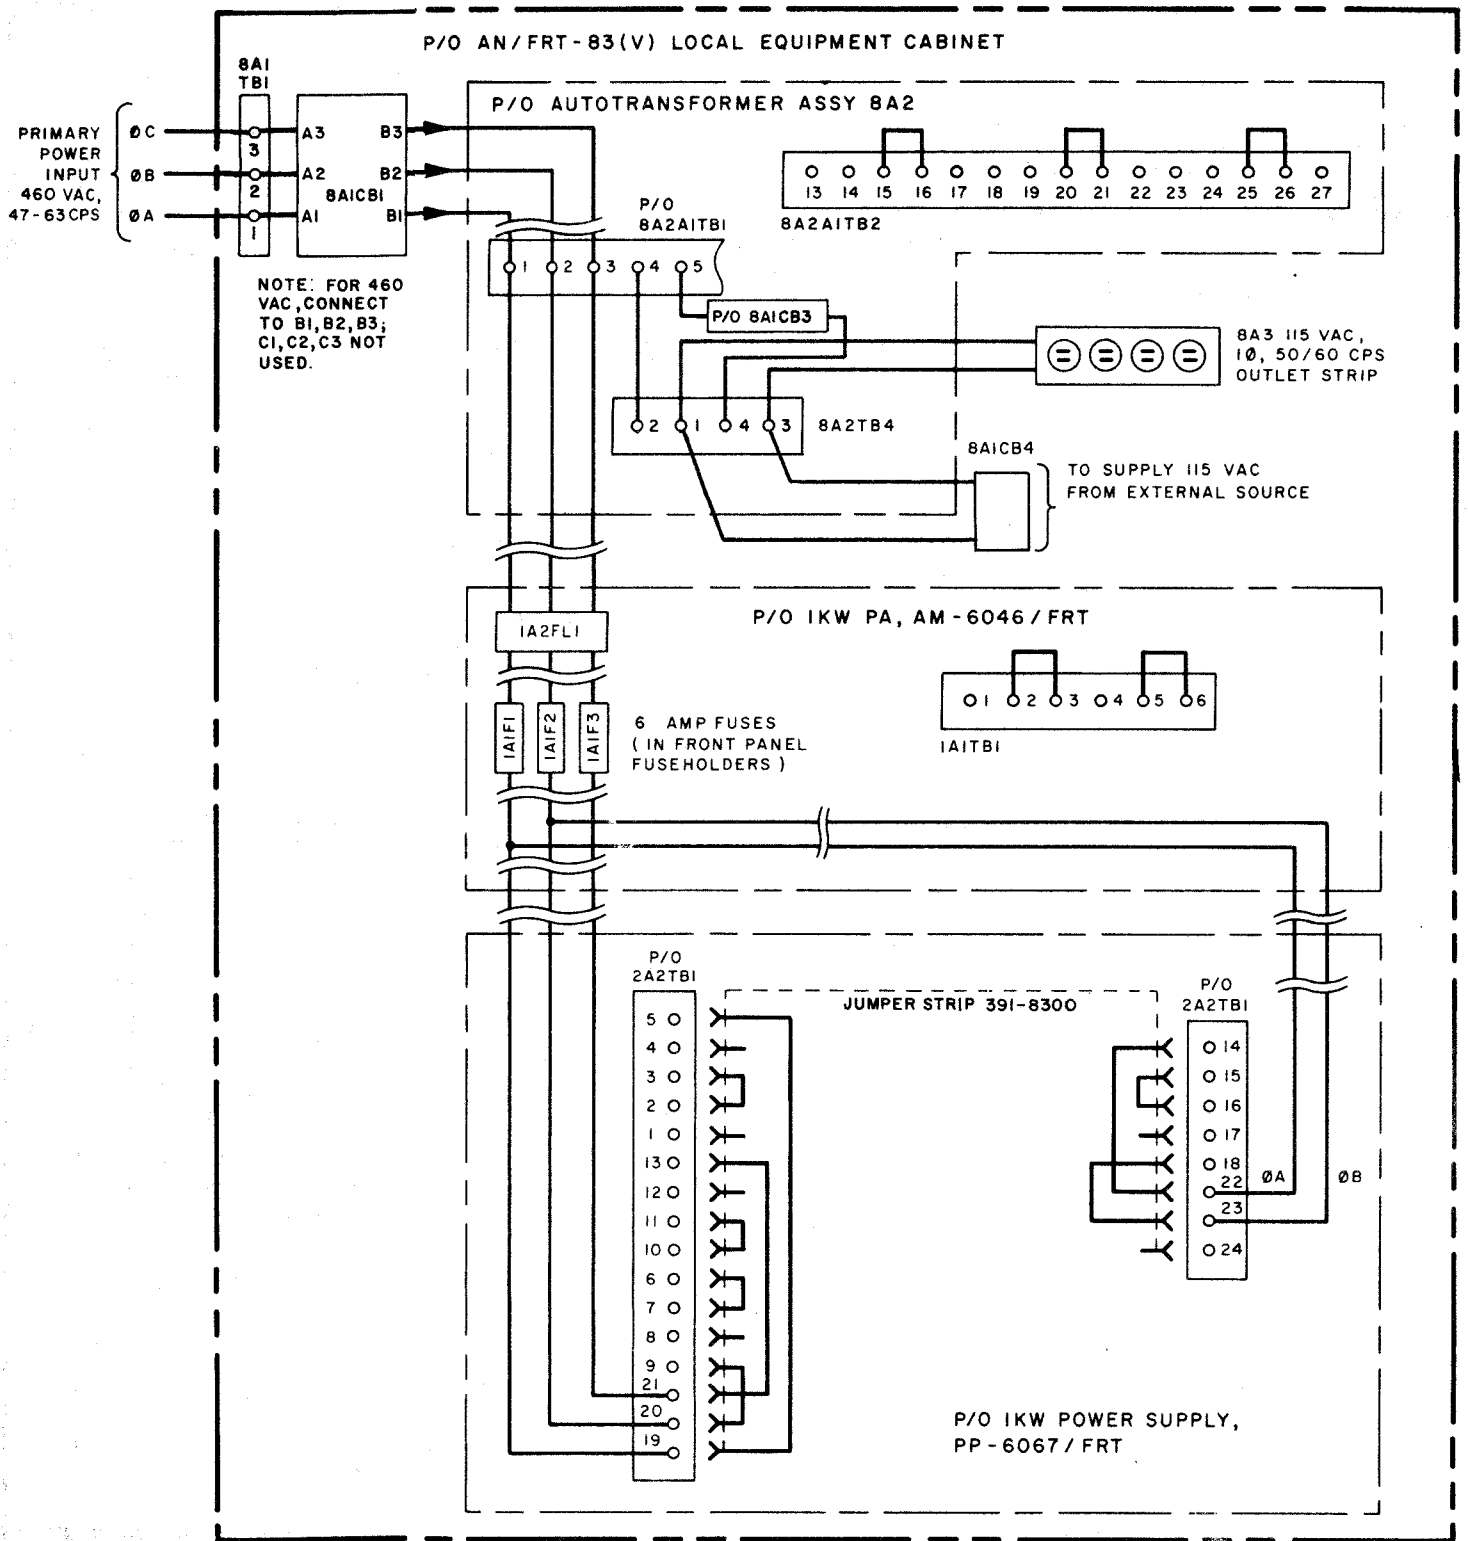

Figure 2-2. 460 VAC Primary Power Fusing and Jumpering Scheme
2-7 Power distribution inside the AN/FRT-83(V) is illustrated in figures 2-2 and 2-3. The Exciter and its blower and the optional Keyer and Decoder-Encoder units are supplied with 115 ± 11.5 VAC, 50-60 CPS, single-phase power from outlet strip 8A3 in the AN/FRT-83(V) cabinet. Power connections are described in paragraph 2-17.
2-20 After connections have been made to the terminal block, refer to figures 2-2 and 2-3 to determine the correct set of output terminals on circuit breaker 8A1CB1 to be used for the selected primary power voltage. Check the connections, and change them over to the other set of terminals if necessary.
2-21 Connect wires of 115 VAC power cable to line terminals of circuit breaker 8A1CB4 (figure 2-2 or 2-3).
g. Check all fuse holders to ensure that each contains a fuse of the proper rating (figure 2-2 and 2-3 and figure 3-1, Operator's Handbook).